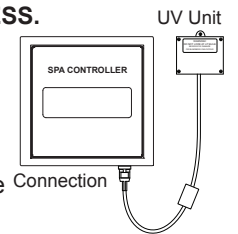

FIGURE 2
1. Turn the breaker to the spa OFF. **DRAIN YOUR SPA.** Disconnect the CLEARARRAY System from the controller, Figure 2.